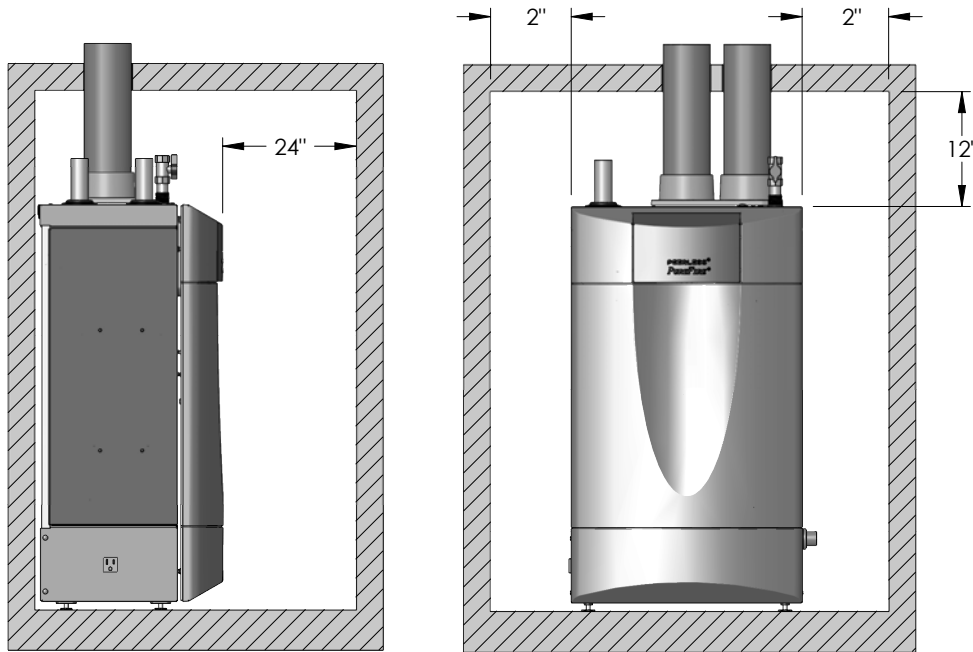
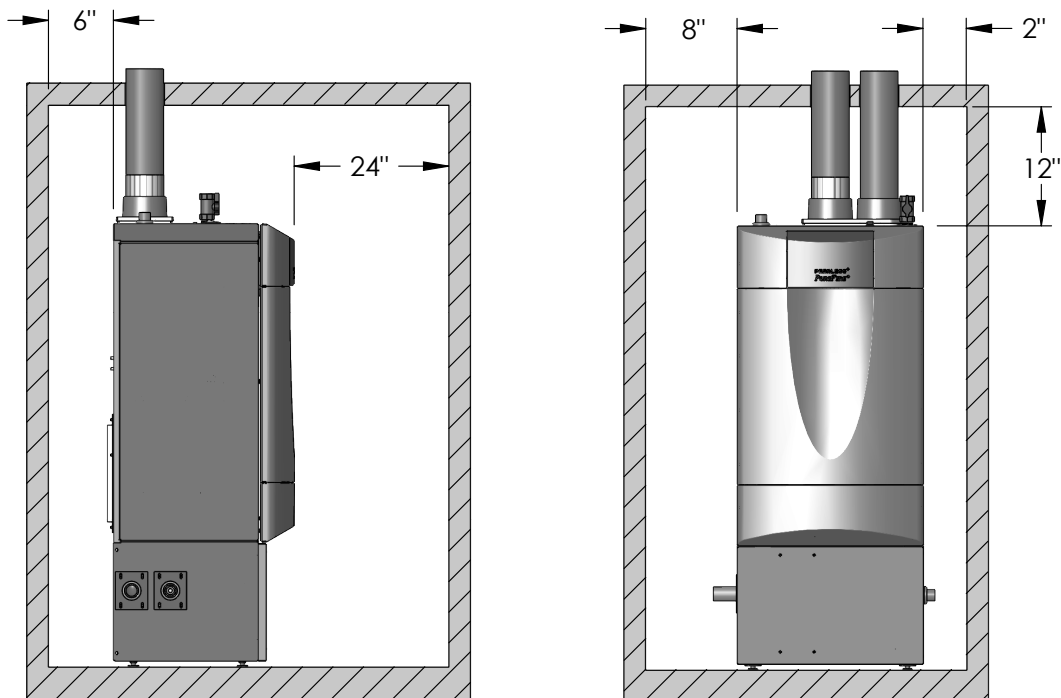

Figure 1.1: Minimum Accessibility Clearances – PF-50, PF-80, PF-110 & PF-140
Figure 1.2: Minimum Accessibility Clearances – PF-200, PF-210, PF-300 & PF-399
2. Figure 1.1 shows the minimum recommended clearances to allow reasonable access to the boiler for Models PF-50, PF-80, PF-110 and PF-140. For Models PF-200, PF-210, PF-300 and PF-399, Figure 1.2 shows the minimum recommended accessibility clearances. However, Local codes or special conditions may require greater clearances.